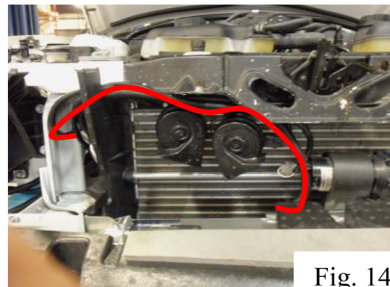

Fig. 14
35) The remainder of the harness should be routed from the relays, through the radiator support opening, and up along the top of the radiator support to the pump (Fig. 14).